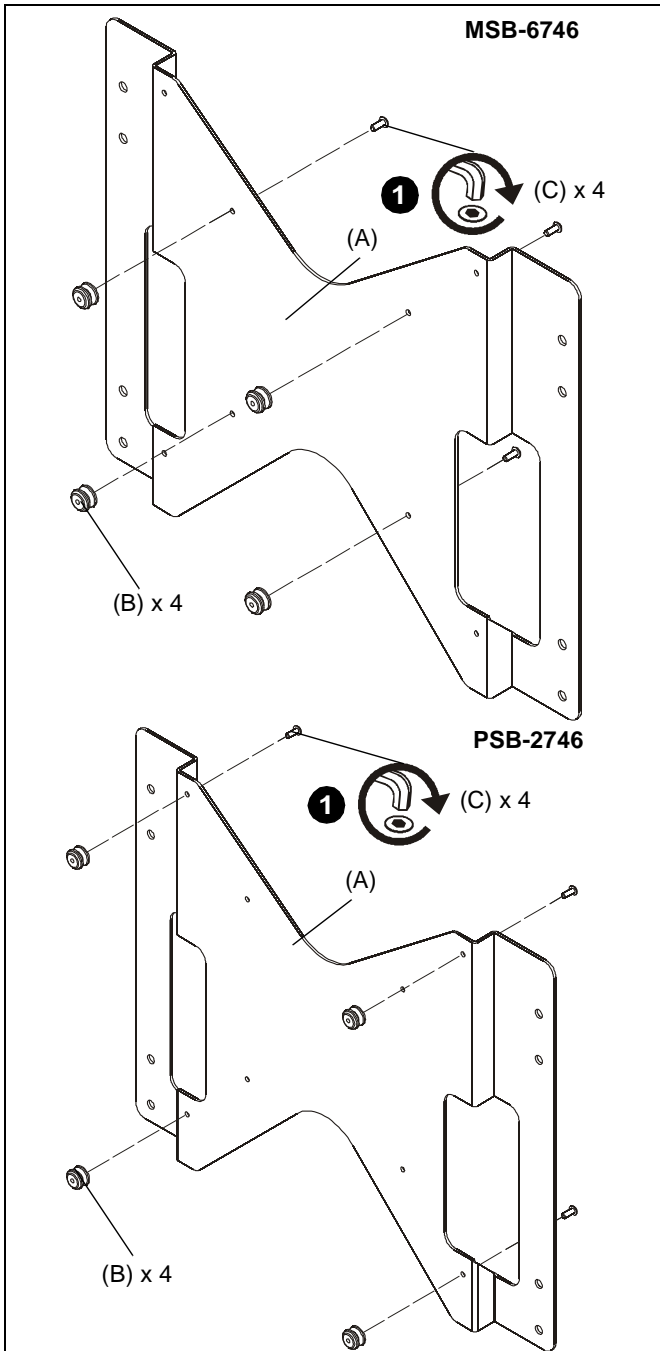

Figure 1
1. Attach mounting buttons (B) to interface bracket (A) using four #10-24 x 1/2" (C) and 5/32" hex key (E). Use inside holes for MSB-6746 and outside holes for PSB-2746. (See Figure 1)